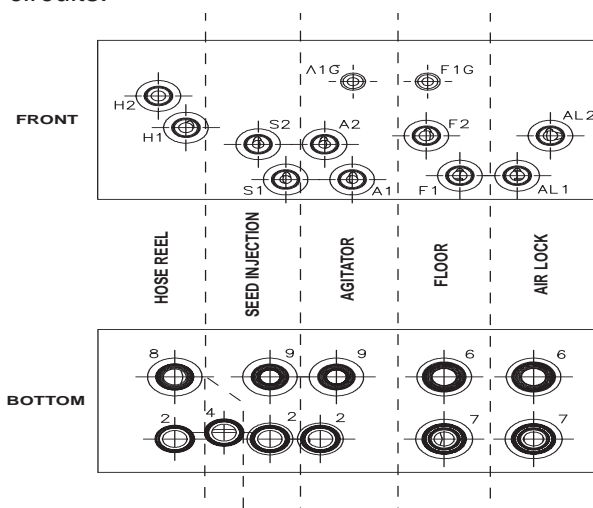

Figure 1 - Valve Block
Figure 1 shows the valve block and the different hydraulic circuits. Each circuit, except the Hose Reel (HR) circuit, is controlled by two valves. On the Floor (F) and AirLock (AL) circuits, the flow rate is controlled by the proportional valves. These valves can be manually stroked by inserting a small rod or screw driver into the hole in the bottom of the solenoid. The Floor and AirLock circuits also have a directional valve that can be manually stroked by pressing the red knob on the bottom of the solenoid. The Agitator (A) and Seed Injection (S) circuits are controlled by a three-position valve that is actuated by one of two solenoids. These valves can be stroked manually by pressing or pulling on the red knob located on the bottom of the solenoid. The Hose Reel (HR) circuit is controlled by a two-position ON/OFF valve, and its solenoid can only be actuated in one direction by pressing on the red knob, located on the bottom. The flow rates for the Hose Reel, Seed Injection, and Agitator circuits are adjusted using the flow control valves. These valves are located directly behind the solenoids for their respective circuits.